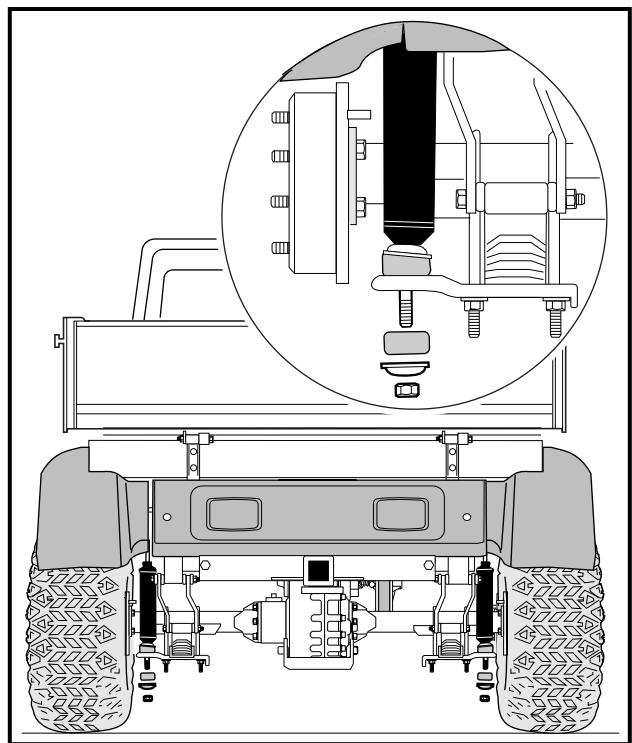

Figure 16-22 Shock Absorbers
5. Remove the lower shock mounting hardware from both rear shocks (**Figure 16-22, Page 16-11**).